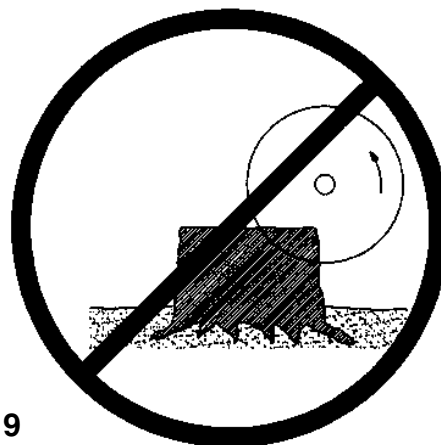

Figure 9
**NOTE:** Do not cut stumps so that the cutting wheel leaves an uncut portion of the stump between the cutting wheel and the tractor or skid steer. This portion of the stump can catch the main swing arm of the stump cutter and prevent it from cutting. (See figure 9.)